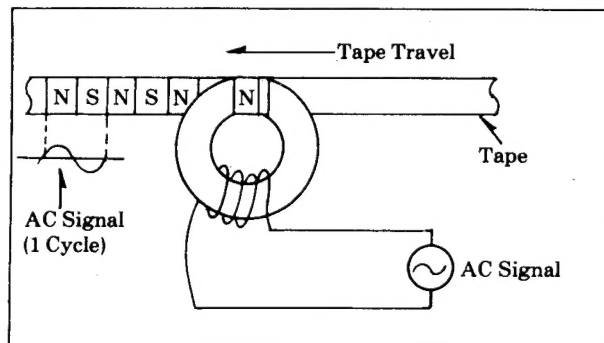
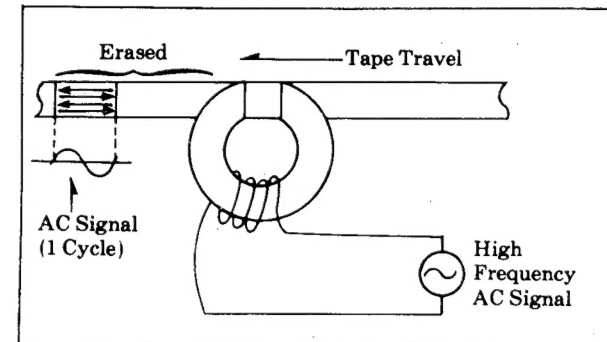

Fig. 2
Fig. 3
The tape will have differently magnetized regions, which can be called North (N) and South (S), according to the AC signal. When the polarity of the AC signal changes, so does the direction of magnetization on the tape, as shown by one cycle on the AC signal (see Fig. 2). If the recorded tape is then moved past a head whose coil is connected to an amplifier, the regions of magnetization on the tape will set up flux across the head gap which will in turn induce a voltage in the coil to be amplified. The output of the amplifier, then is the same as the original AC signal. This is essentially what is done in audio recording, with other methods for improvement like bias and equalization.
There are some inherent limitations in the tape recording process which do effect video tape recording, so they will be examined now. As shown in Fig. 2, the tape has North and South magnetic fields which change according to the polarity of the AC signal. What if the frequency of the AC signal were to greatly increase? If the speed of the tape past the head (head to tape speed) is kept the same, the changing polarity of the high frequency AC signal would not be faithfully recorded on the tape, as shown in Fig. 3.
As the high frequency AC signal starts to go positive, the tape will start to be magnetized in one direction. But the AC signal will very quickly change its polarity, and this will be recorded on much of THE SAME PORTION of the tape, so North magnetic regions will be covered by South magnetic regions and vice versa. This results in zero signal on the tape, or self-erasing. To keep the North and South regions separate, the head to tape speed must be increased. (See Fig. 3.)